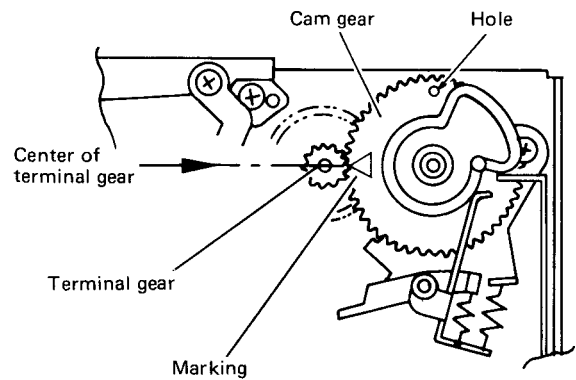

Fig. 2-5-2 Phase adjustment of control cam
3. As stated in the above item 2, two loading rings should be correctly positioned before re-assembly. In regard with this work, it is recommended to attach one of three ring guides (the nearest one to the take-up side or to the A/C head) to the two loading rings to make the work easy.
4. To enter the mechanism into the Stop mode, position the control cam gear's marking and the center of the terminal gear's axis as shown in Fig. 2-5-2.